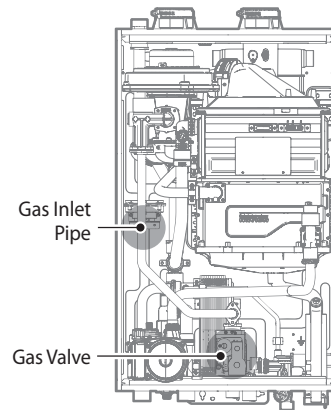

Figure 2. NCB-E Series Internal Components
8. With the internal components exposed, locate the gas inlet pipe and the gas valve in the middle of the unit, as shown in Figure 2.